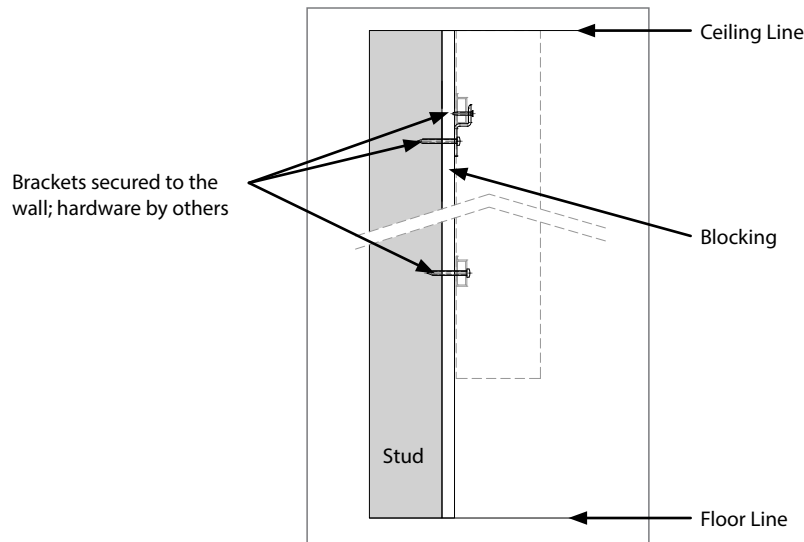

Figure 7
6. Use hardware compliant to local building codes (provided by others) to mount brackets to the wall (**Figure 7**).